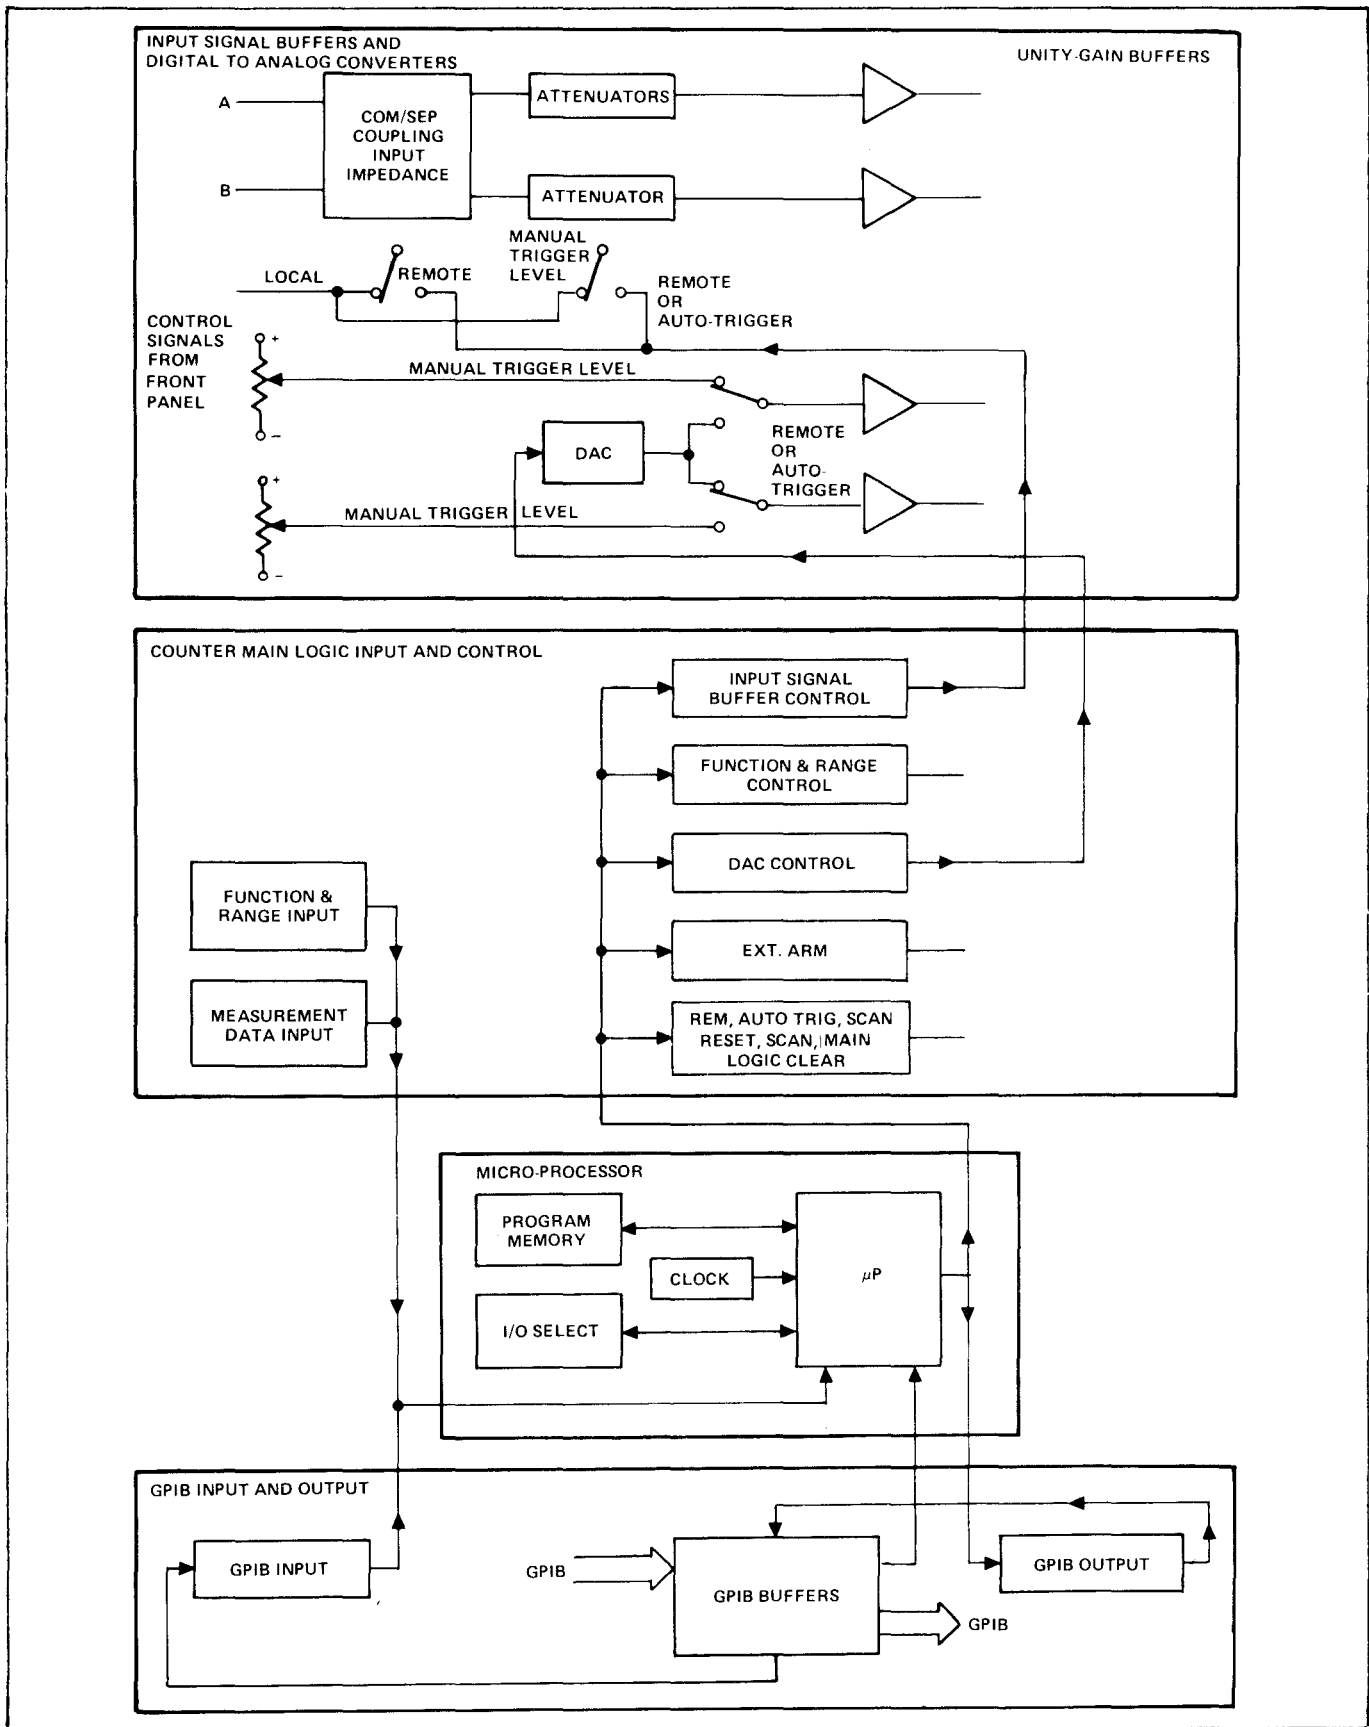

Figure 1.43 - Functional Block Diagram
1.4.25.2 A functional block diagram of the instrument is shown in figure 1.43. The diagram is divided into four major areas for the purpose of discussion; (1) Input Signal Buffers and Digital to Analog Converters (DAC), (2) Microprocessor, (3) General Purpose Interface Bus (GPIB) logic, (4) Counter Main Logic Inputs and Control.
1.5.1.2 Figure 1.43 shows the schematic of the digital to analog converters for the Model 9514 counter. Each channel contains a 9-bit shift register which receives binary coded information in a bit-serial format (LSB first) and transforms it into a 9-bit parallel word that defines the trigger level for that channel. The LSB of the DAC is equal to a 12.5 mV increment. Table 1.10 shows the range of the DAC and its binary limits.